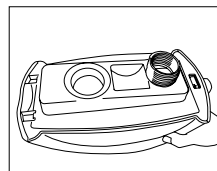

Fig. 4-3
3. Fill the tank with water (Fig. 4-3).